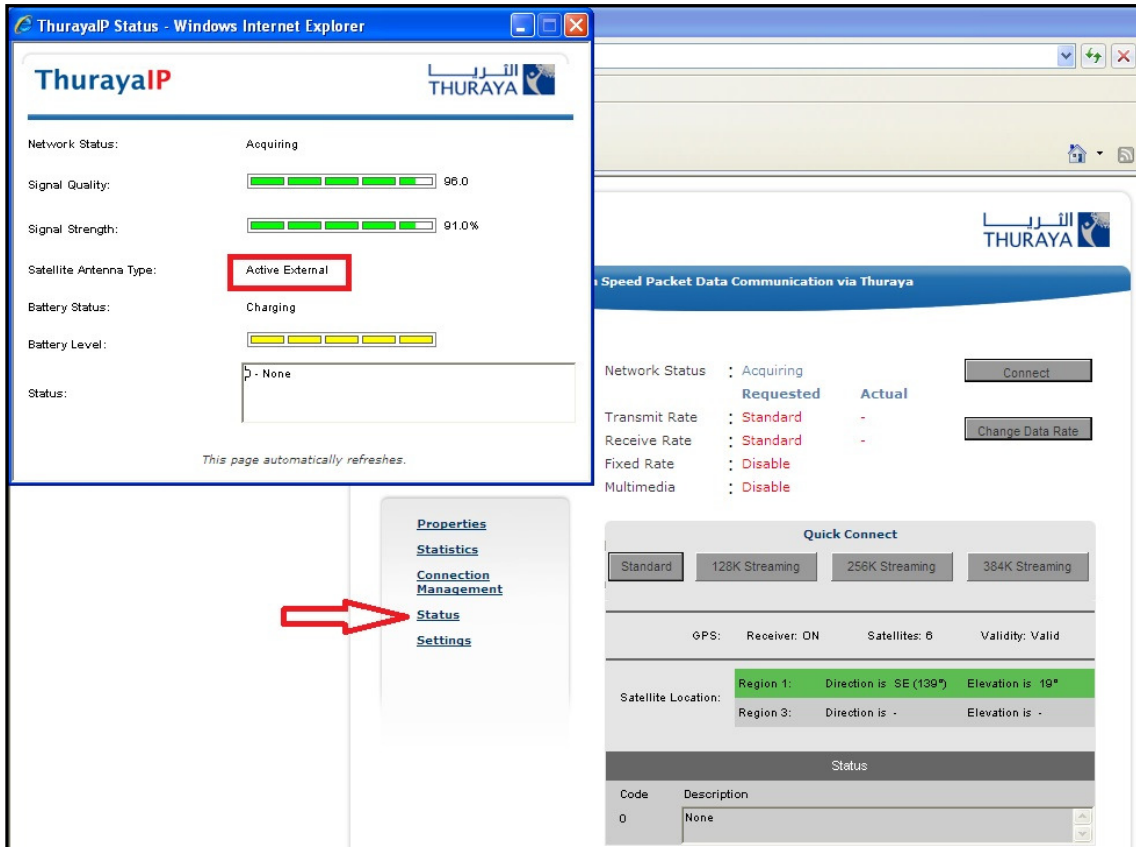

Figure 5. Thuraya IP terminal web interface. Check for antenna type.
- a. Go to the web interface on the terminal and under the fan “Status” check that the Satellite Antenna Type reads: “Active External”, see Figure 5.